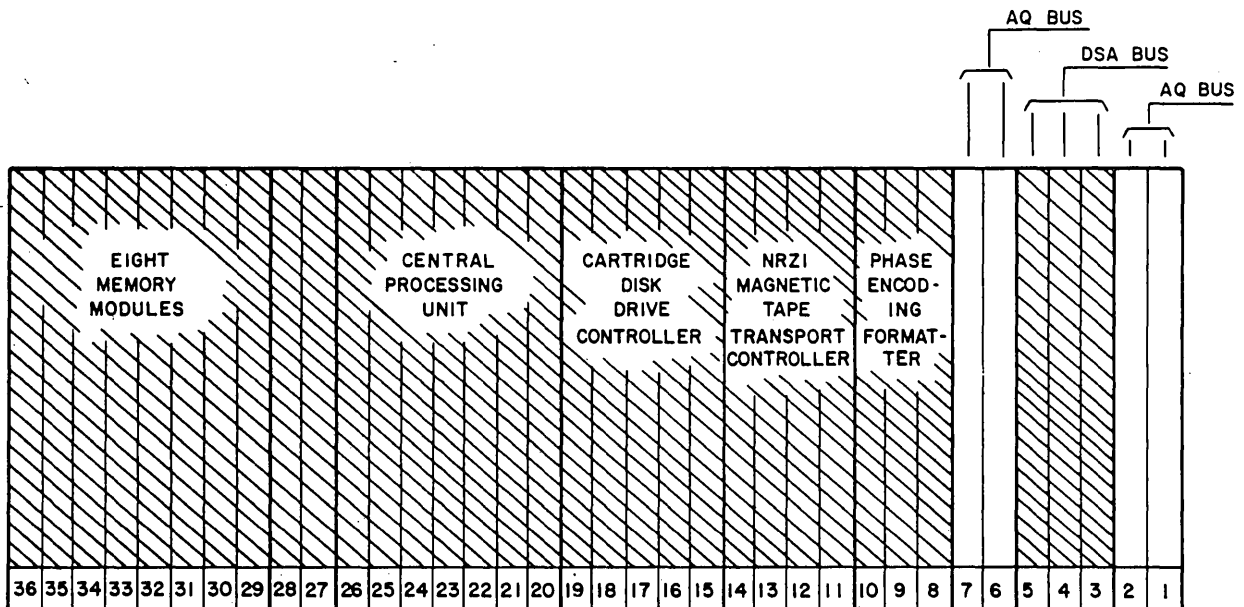

Figure 3-1. Installation Location of Controller PW Assembly (A/Q Bus)
1. Remove the air-flow block from the lower slide of the card slot that is to be used. Refer to figure 3-1 for selection of the location for the printed wiring board in the A/Q bus (slots 1, 2, 6, or 7).